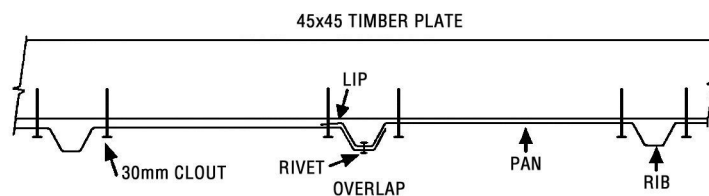

fig. 1
When fitting Gable End Sheets ensure they overlap correctly (*fig 1*).
Step 2: Back Wall: Position the first Wall Sheet with the LIP on the right hand side. Ensuring the LIP is flush with the side of the Studs and the top of the Wall Sheet is flush with the top of the Top Plate, tack in place. Position the next Wall Sheet with the LIP on the right hand side. Overlap as shown in (fig 1). Ensuring Wall Sheet is flush with top of Top Plate, tack in place. Repeat with remaining two sheets.